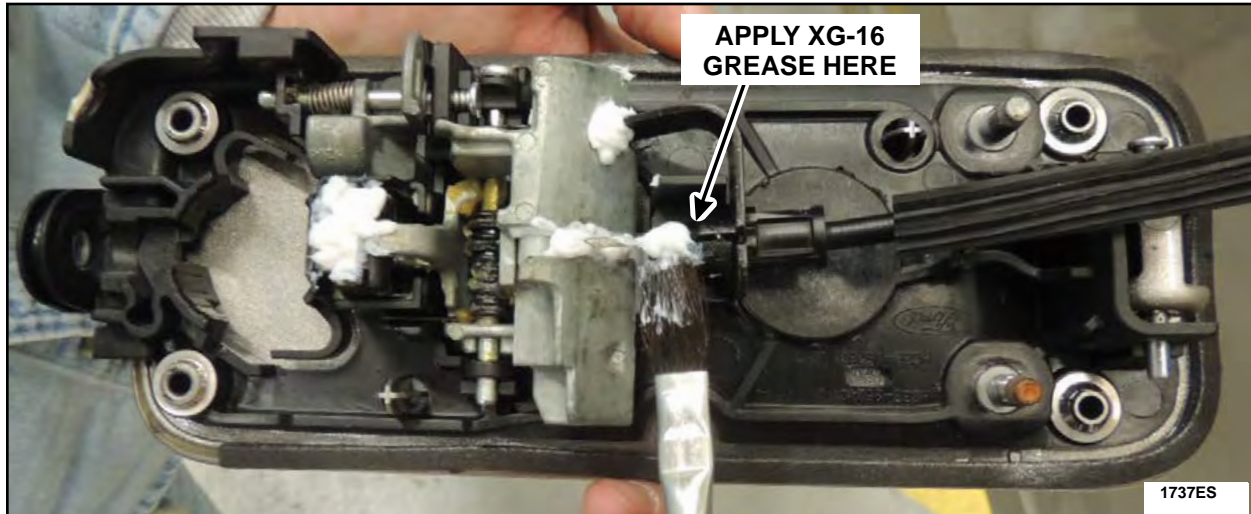

FIGURE 97
25. Reconnect the exterior door handle cable to the door handle, then lubricate the door handle cable end with XG-16 low temperature grease as shown in Figure 97.